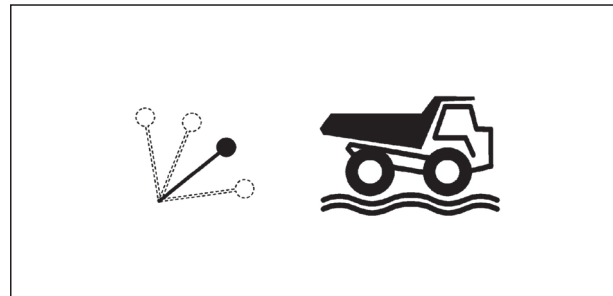

Fig. 4-13
2. Make sure the body control lever is in the 'FLOAT' position.(see Fig. 4-13).